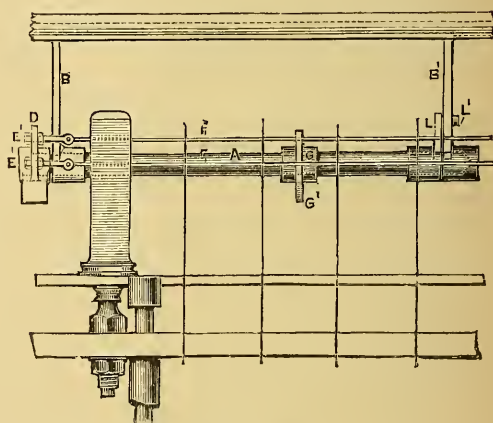

Figs. 30, 31.—Conditioning Bobbins.
**Conditioning Bobbins.**—The bobbins here illustrated, (Figs. 30 and 31) undoubtedly show the best form of bobbins in existence, as they may be subjected to either steaming or damping without the slightest injury resulting.